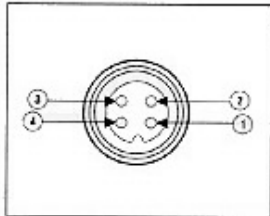

Figure 4.3 Microphone Plug Pin numbers Viewed from Rear of Pin Receptacle.
(5) The wires must now be soldered to the pins as indicated in Figure 4.2 (page 13). If a vise or clamping tool is available it should be used to hold the pin receptacle body during the soldering operation, so that both hands are free to perform the soldering. If a vise or clamping tool is not available, the pin receptacle body can be held in a stationary position by inserting it into the microphone jack of the front panel. The numbers of the pins of the microphone plug are shown in Figure 4.3, as viewed from the back of the plug. Before soldering the wire to the pins, pre-tin the wire receptacle of each pin of the plug.